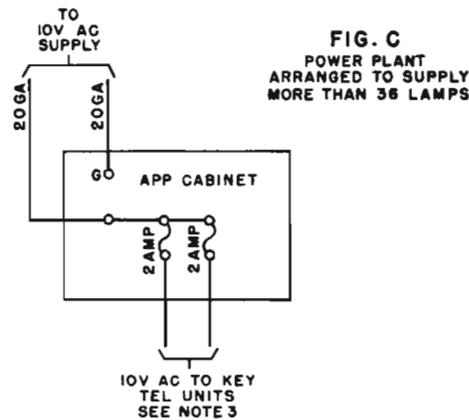
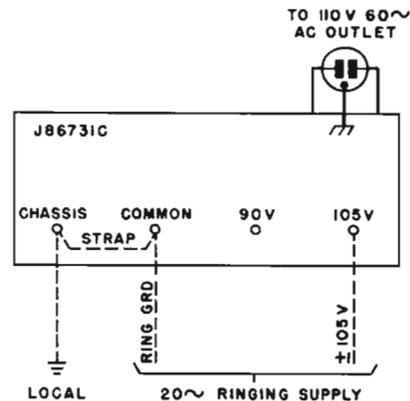

Fig. 3 - J86731A and D 101G Power Plants
Fig. 5 - J86731C 101G Power Plant
**5.04** The 2-amp fuse in the 10-volt ac supply of the J86731A, Lists 4 and 6 101G power plants provides for a maximum of thirty-six 51A lamps. When two 2-amp fuses separated by brass washers are paralleled as illustrated in Fig. 3B, and connections are provided as shown in Fig. 3C, seventy-two 51A lamps may be supplied. The connections for the J86731A, Lists 4, 5, and 6 101G power plants are shown in Fig. 3.
**5.06** The J86731C, List 1, and J86731D, List 1 101G power plants are arranged to mount in a KTU apparatus cabinet, or on relay rack, or in a key telephone system KSU. When the power plant is mounted in an apparatus cabinet, the ac power cord shall follow the same route within the cabinet as incoming cable. Fig. 5 gives the connections for the J86731C, List 1 or 2 power plant. Fig. 3 gives the connections for the J86731D, List 1 power plant.